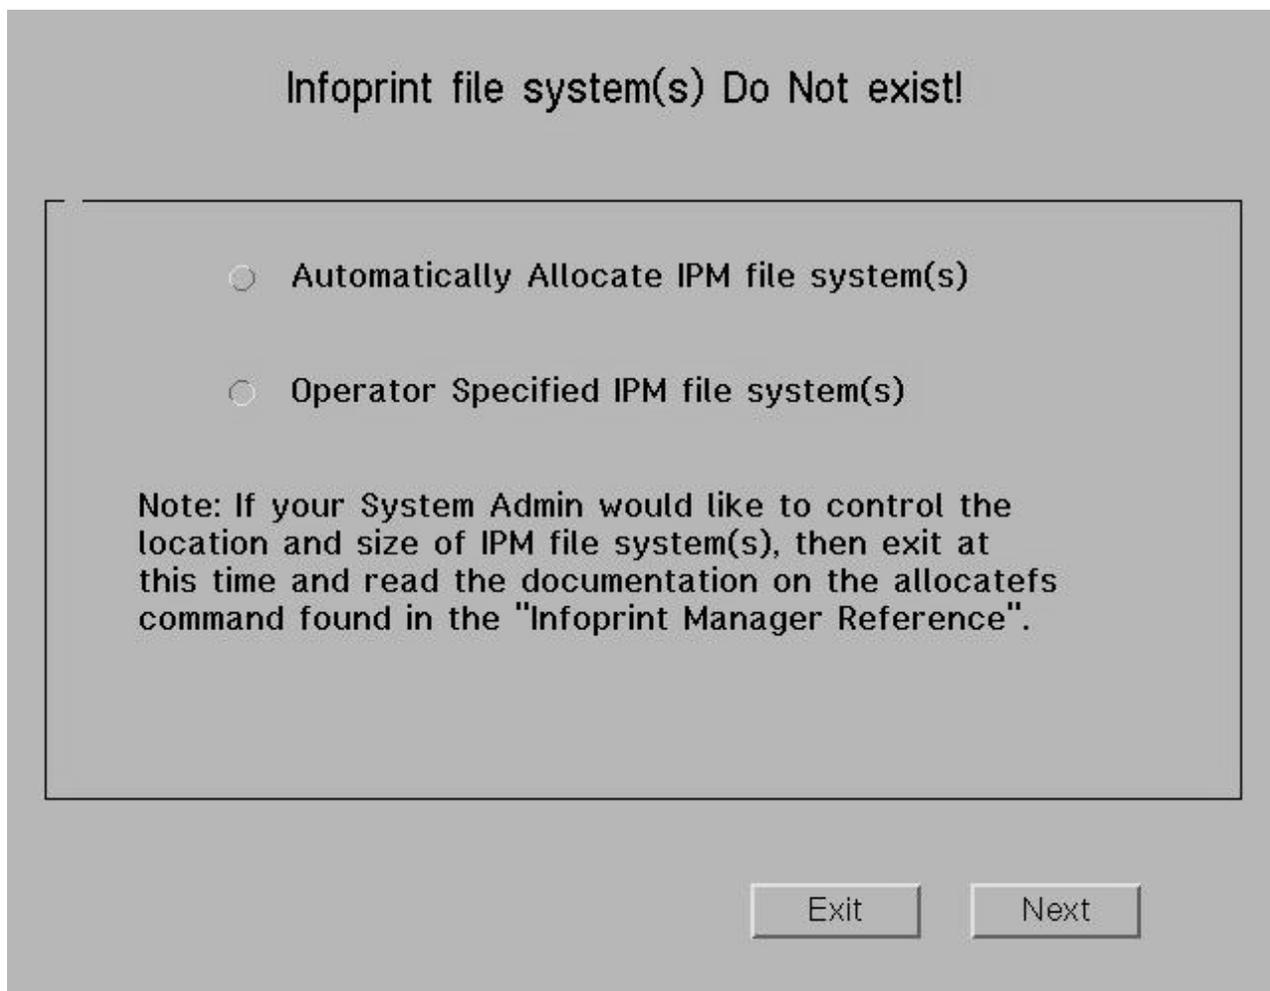

Figure 2. Infoprint Installer: Infoprint Filesystems panel
2. Allocate your AIX filesystems for Infoprint Manager (see Figure 2).